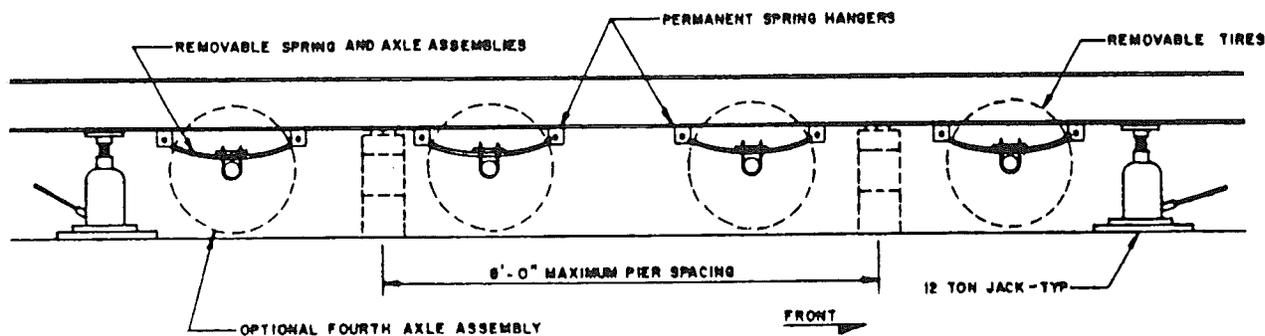

FIG. 4
- 2 On one side of the unit, place a jack just forward of the front spring shackle and another just behind the rear spring shackle. On that side, raise the unit by operating the jacks simultaneously. Place concrete block piers under the main I beams as shown in fig. 4. Remember, the pier spacing is not to exceed 8'-0" o.c..